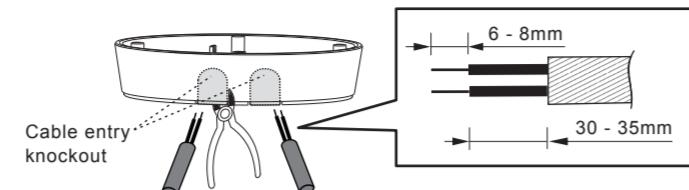

FIG.14
4.4.3.2 To feed AC power cables through the side of junction box, please use the cutting pliers to break the cable entry knockouts on the side of junction box, then insert cables into junction box and feed through it. Strip off 6 - 8mm of cable sheathing for wiring (See FIG.14).